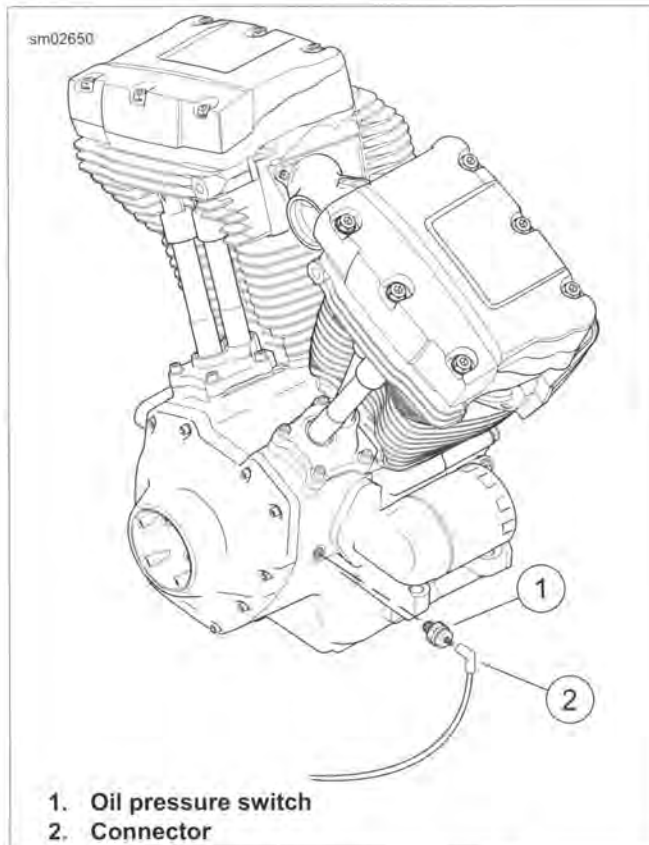

Figure 7-84. Oil Pressure Switch
See Figure 7-84. The oil pressure switch is located on the right side of the crankcase.
1. See Figure 7-84. Remove connector (2) from oil pressure switch (1).
2. See Figure 7-84. Install oil pressure switch (1) to crankcase. Tighten to 96-144 **in-lbs** (10.8-16.3 Nm).
3. Attach connector (2) to oil pressure switch.